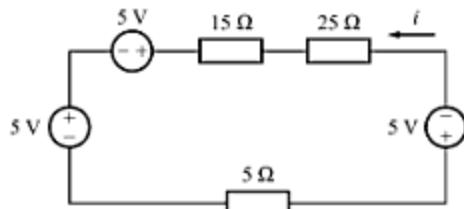

Fig. A-59
- A-10. Determine the current i in the circuit of Fig. A-59.